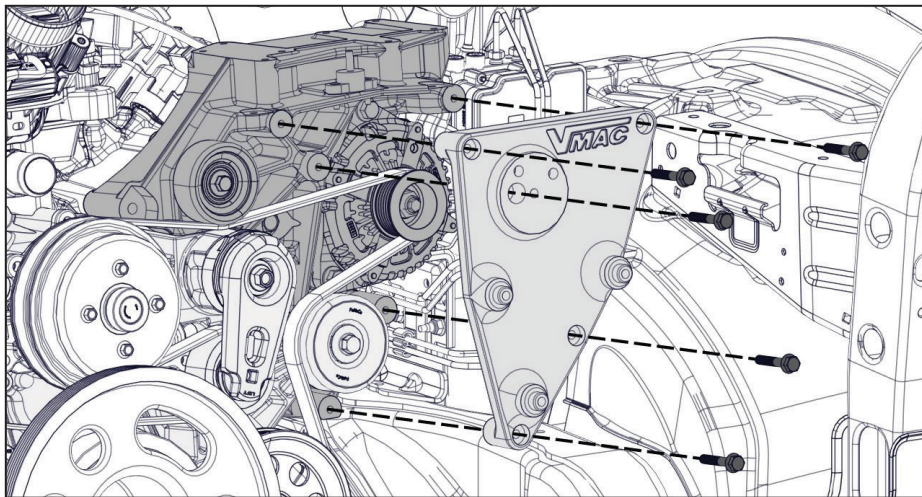

Figure 41 — Install VMAC idler bracket
- ☐ Using the supplied fasteners, install the FEAD bracket onto the VMAC main bracket (Figure 41).